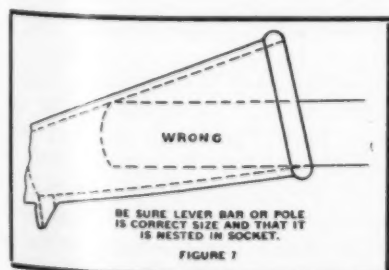

FIGURE 7
(1) Check overplay. When the pawl clicks into position, the socket stop should be at least  $\frac{1}{2}$  in. away from the housing on both the up and down strokes. If it has less than this, the clearance should be checked.
(2) Keep spring link clean. Dirt or caked grease interfere with the proper spring tension. Wash it in kerosene occasionally.
(3) Use correct size lever bar or pole. Wrong sizes can damage socket and are dangerous to use. (See Fig. 7)
(3) Keep lifting pawl seat clean. Blow out dirt or wash with kerosene occasionally. It helps teeth to mesh properly, providing a maximum bearing area, thereby reducing wear on teeth.
(4) Use proper poles or lever bars. Using the wrong size endangers the operator from slippage and additionally places needless stress on the lever socket. (See Fig. 7)
(5) Do not use jack as a mawl or car stopper. Do not throw it onto ties